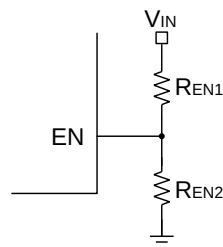

Figure 4: EN Divider Circuit
2. Enable the IC with the programmable VIN under-voltage lockout (UVLO) threshold. With high enough input voltage (VIN), the chip can be enabled and disabled by the EN pin. With the internal current source, this circuit can generate a programmable VIN UVLO and hysteresis (see Figure 4).